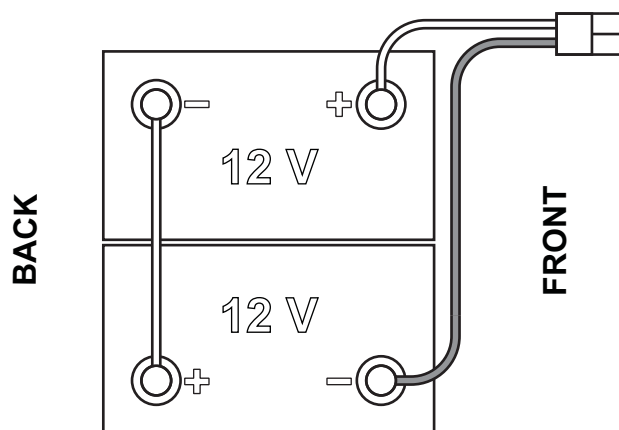

Figure 1
The machine requires 2 12 V batteries, connected according to the diagram shown in Figure 1.
1. Remove the user key (52).
2. Disconnect the battery connector by pressing the emergency push-button (5).
3. Lift the cover (18) and check that the recovery tank (17) is empty, otherwise empty it with the drain hose (26).
4. Close the cover (18).
5. Grasp the handle (35) and carefully lift the recovery tank assembly (17).
8. Route and install the battery cable as shown in Figure 1, then carefully tighten the nut on each battery terminal.
9. Place the protection cap on each terminal, then connect the battery connector (6).
10. Disengage the support rod (36), then grasp the handle (35) and carefully lower the recovery tank assembly (17).